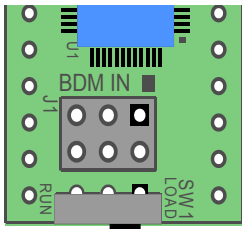
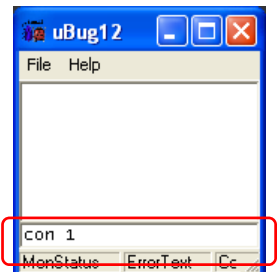

Figure 8 - Switch to Load Mode
Figure 9 - Command Window
1.42 Establishing a Serial Port Connection. Once you have launched uBug12, place the NanoCore12 switch in the **LOAD** position (see Figure 8) and reset your NanoCore12. Then click inside the command window of uBug12 (see Figure 9) and type the command *con 1* in order to establish communication between uBug12 and the NanoCore12 module. If you're using a com port other than 1, substitute the correct number (eg. type *con 3* if you are using com port 3). A **CONNECTED** message will appear in the uBug12 display window showing that the connection was successful.